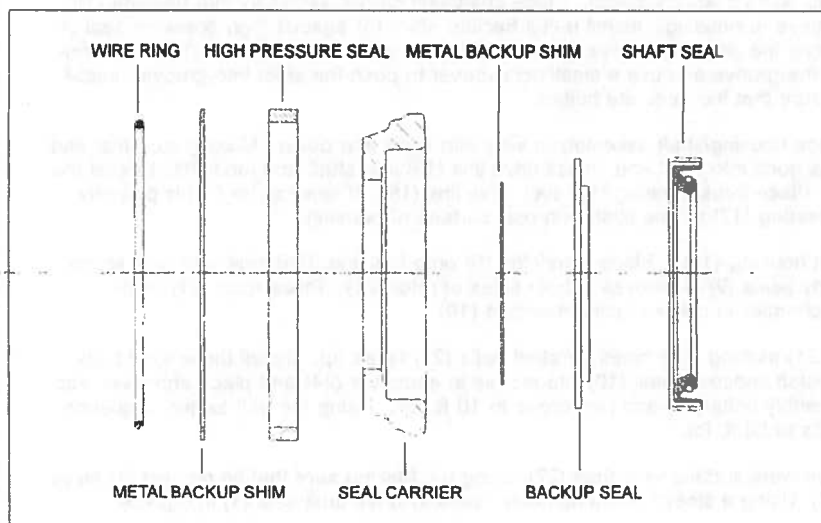

FIGURE 1
- A) Remove all shaft related components from shaft (27) (i.e. keys, wire rings, nuts). To aid in reassembly of the motor, make a "V" shaped set of lines from the endcover (24) to the housing using either paint or a marker. With shaft facing down, secure motor in vise by clamping on to housing (15).
- B) Loosen and remove seven bolts (26) holding motor assembly together. Remove endcover (24) and endcover seal (10). Discard seal. Remove balance plate (22) taking care not to drop the three steel balls (23) located in the three holes in the balance plate (22). Remove rotor assembly (21), manifold (19), drive link spacer (20) (NOTE: Some motors do not use spacer), drive link (18) and thrust bearing (17). Remove body seals (9) from rotor assembly (21) and housing seal (8) from housing (15) and discard seals. (NOTE: Compare old housing seal (8) to the two housing seals included in kit to determine which one to use.)
- C) Gently tap shaft (27) upward from housing (15) and remove through rear of housing and lay aside. Remove housing (15) from vise and turn over. Pry dust seal (1) from housing. Push the seal carrier (11), thrust washer (12) and thrust bearing (13) down until they make contact with the roller bearing (14) located in the housing bore.
- D) Remove wire ring (2), steel backup shim (3) and high pressure seal (4) from inner bore groove with a small screwdriver. Lift our seal carrier (11), thrust washer (12) and thrust bearing (13) from the housing bore. Using a small screwdriver, carefully pry shaft seal (7), backup seal (6), and metal backup shim (5) from seal carrier (11) and discard. Lay seal carrier (11), thrust washer (12) and thrust bearing (13) aside. (NOTE: If a new thrust washer (12) and seal carrier (11) is included in kit, old items may be discarded).
- F) Place shaft (27) on a clean flat surface with output end facing up. Place thrust bearing (13) (NOTE: If thrust bearing has integral washer, make sure washer surface faces down.) Then thrust washer (12) on shaft (See Technical Bulletin PI444004 to determine correct thrust washer to use). Lightly coat seal area of shaft with clean oil and place plastic installation sleeve with shaft seal (7) down onto shaft covering all splines, keyways and wire ring grooves. Slide shaft seal (7) down onto shaft (27) making sure that lip on seal faces down (See Figure 1 for correct seal orientation) until it contacts thrust washer (12). Remove plastic installation sleeve. Carefully install the backup seal (6) onto the shaft (27) with the flat side up and the seal lip facing the shaft seal (7). Place the metal backup shim (5) onto the shaft and against the backup seal (6). Place the seal carrier (11) onto the shaft (large end down) and carefully press the seal carrier (11) down onto the seal assembly using an arbor press and sleeve to compress the seal into the carrier.
- G) With pilot side facing up, place housing (15) on spacers to raise housing approximately .250 above work surface (NOTE: Spacers should allow shaft to contact work surface). Place shaft/seal carrier assembly into housing (15). Install high pressure seal (4) into groove in housing. Install metal backup shim (3) against high pressure seal (4) in groove in housing bore by squeezing the shim (3) between thumb and forefinger to bow shim. While maintaining bow in shim, start the shim into the groove and use a small screwdriver to push the shim into groove. Install wire ring (2) into the groove making sure that the ends are butted.
- H) While holding shaft into housing, place housing/shaft assembly in vise with shaft end down. Making sure that end of drive link (18) with crowned splines goes into shaft end, install drive link (18) into shaft and tap lightly to seat the seal carrier against the wire ring (2). Place thrust bearing (17) over drive link (18). If seal carrier (11) is properly seated against wire ring (2), thrust bearing (17) will be flush with rear surface of housing.
- I) Install housing seal (8) into groove in housing (15). Place manifold (19) onto housing, (15) side with only seven holes facing housing (15). Place body seals (9) in grooves in both sides of rotor (21). Place rotor (21) onto manifold (19) with side of rotor with chamfer in splines facing manifold (19).